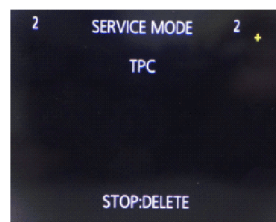

Fig.3-12
8. The (+) mark appears in the upper right (Fig.3-12). Then touch the (+) mark.